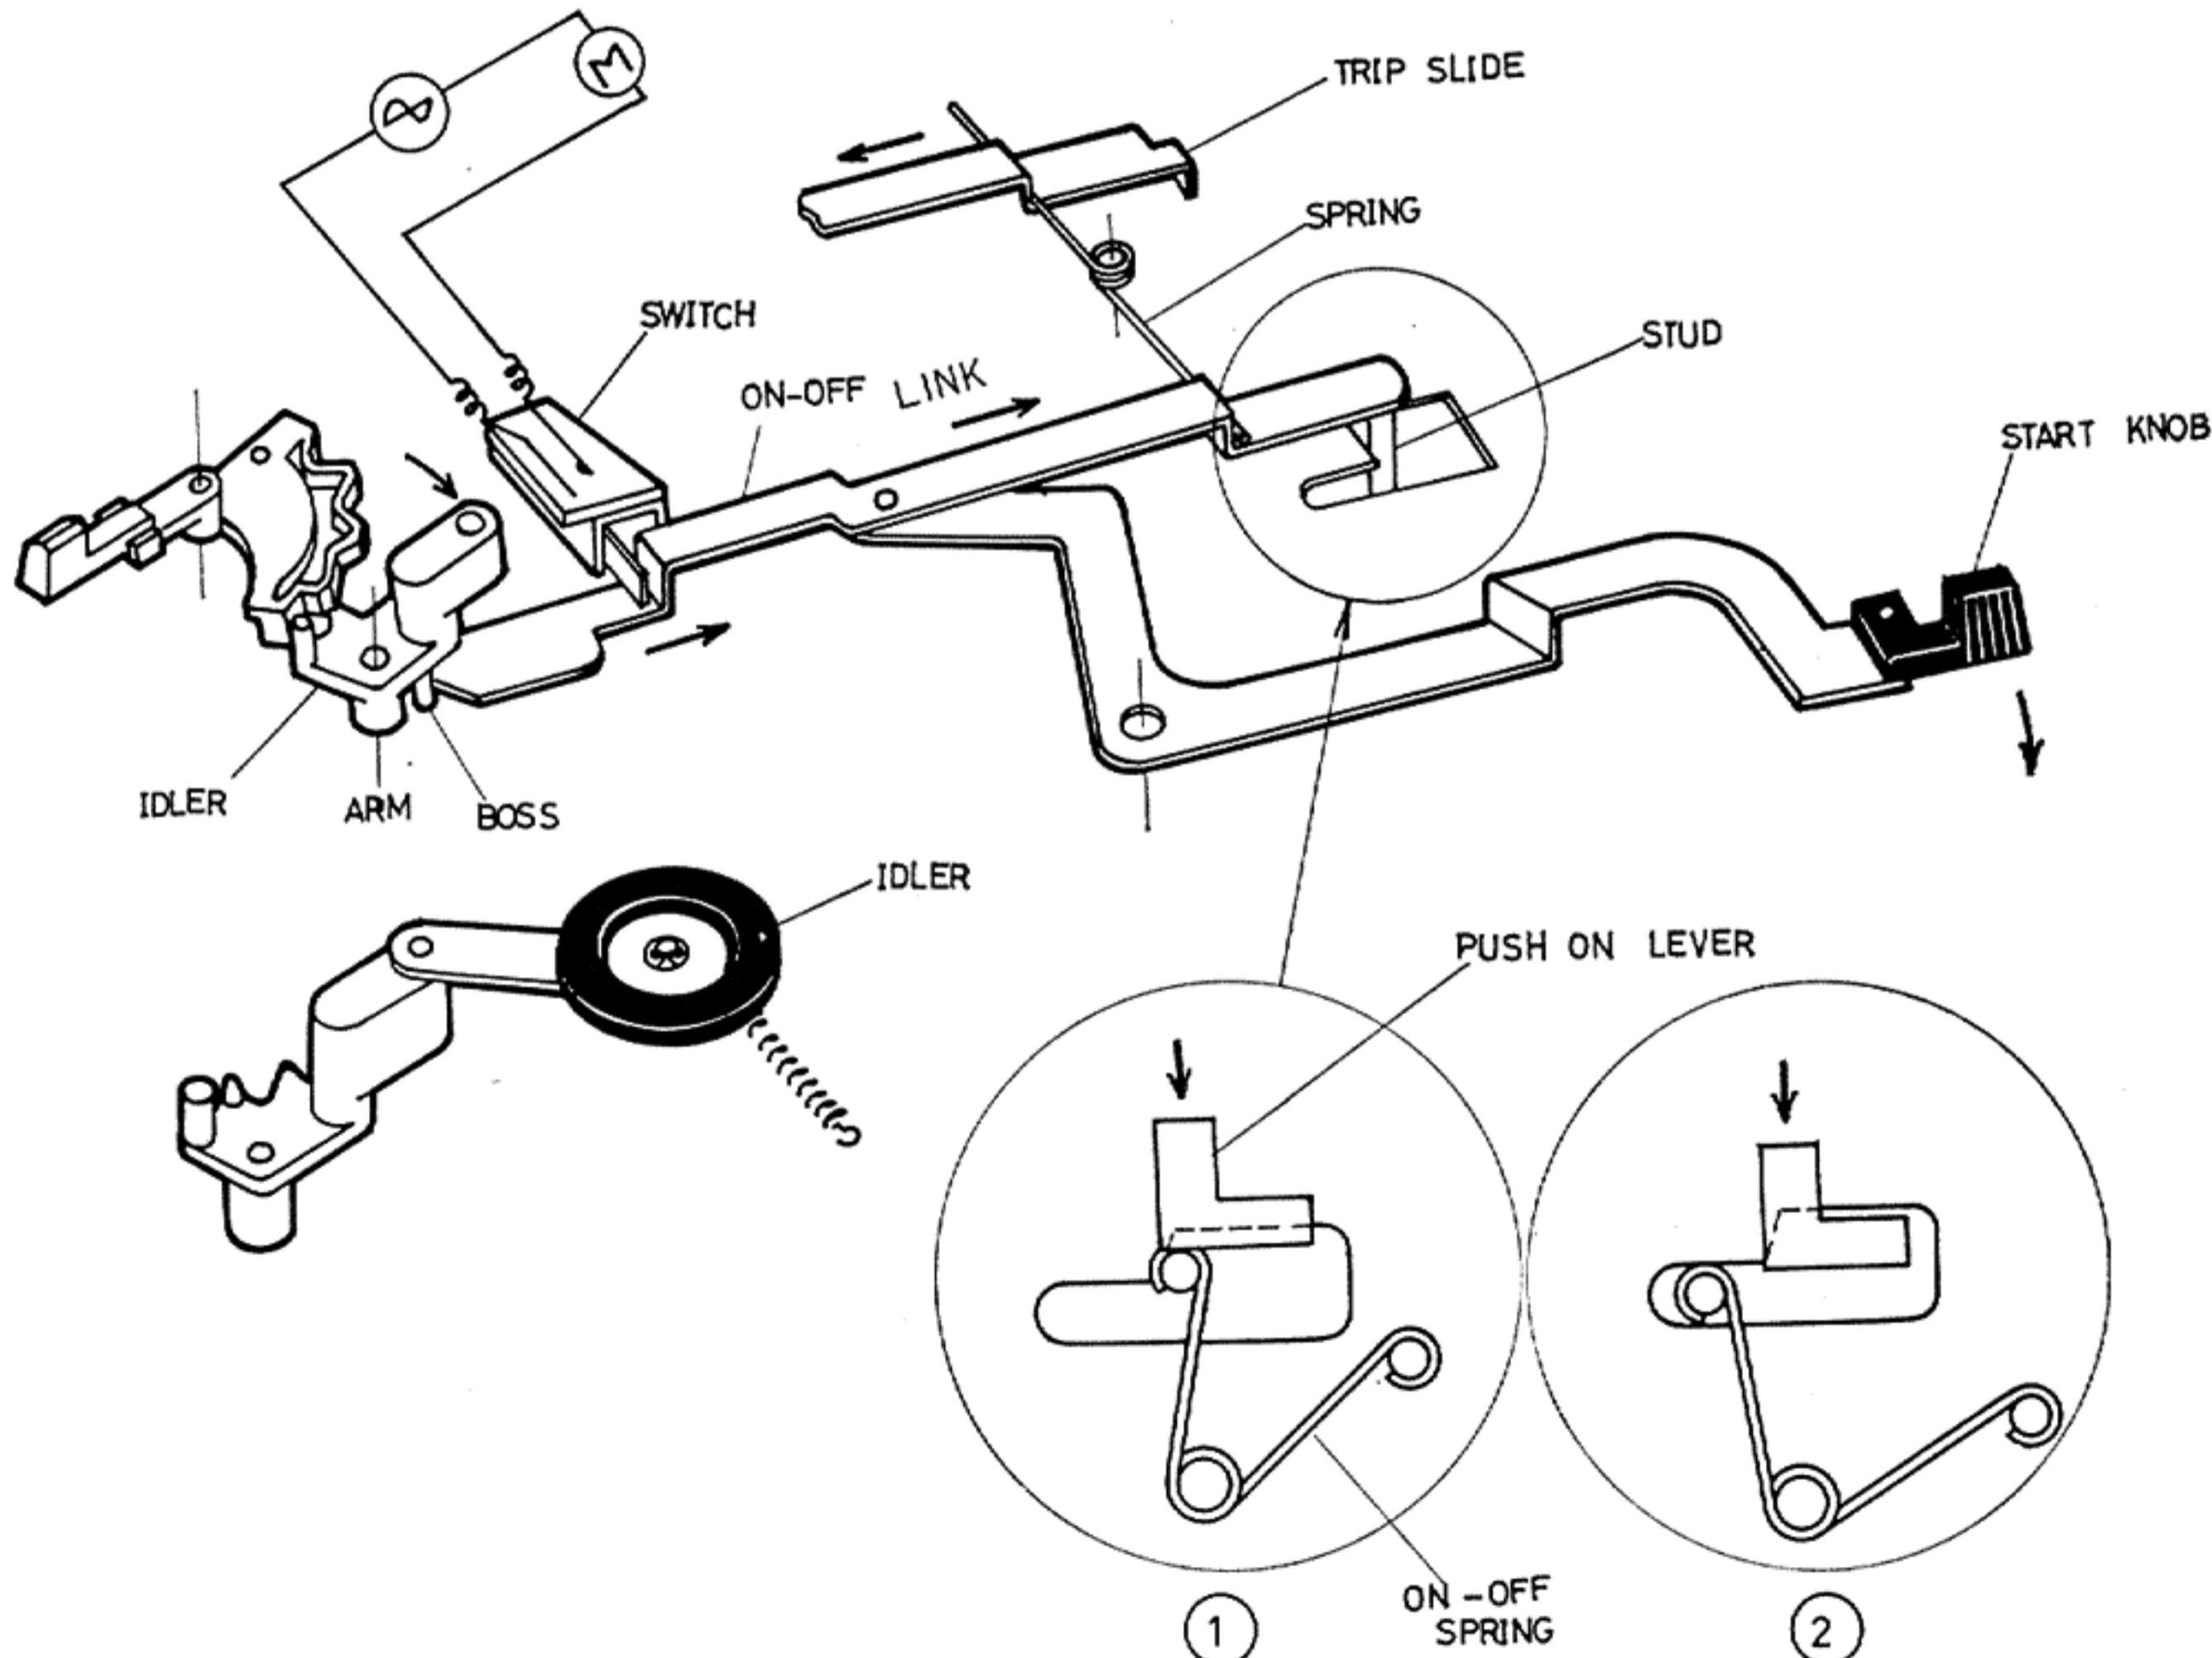

Fig. 5
## START (Fig. 5)
- ① and ② in Fig. 5 shows the shut-off action of the On-Off Spring.